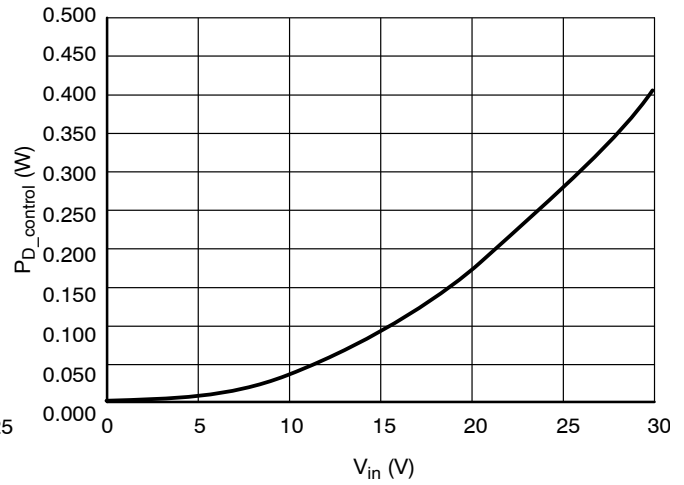

Figure 4. Internal Circuit Power Dissipation vs. Input Voltage
- Establish Power Dissipation on the NUD4001 device's control circuit per Figure 4:
A $P_{D_control} = \text{Figure 4, for } 12 \text{ V input voltage}$